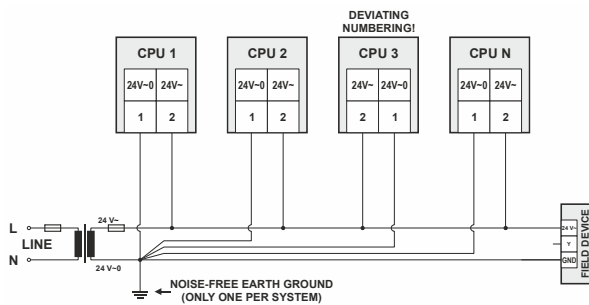

Fig. 61. Connecting and earthing multiple CPUs
- Connect earth ground to the proper terminal of the CPU, see Fig. 61.